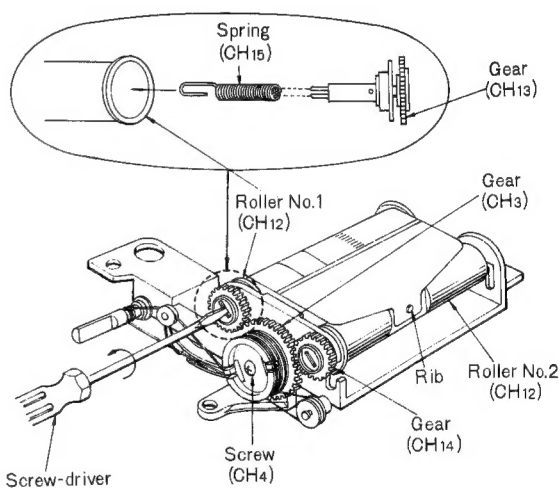

Fig. 3
1. Insert the gear (the gear not attached to the shaft) and the spring into roller no. 1, as shown in fig. 3.
2. Fully wrap the dial scale around roller no. 1, as shown in fig. 3.
3. Insert the dial scale into rib of roller no. 2, as shown in fig. 3.
4. Loosen the dial drum screw, as shown in fig. 3.
5. Using a screw-driver, as shown in fig. 3, slightly move the gear of roller no. 1 so that the gear disengages from the center gear, turn three times in the direction of the arrow (being sure to secure roller no. 1 so as to prevent it from also turning), and then engage the gear with the center gear once again.
8. Tighten the dial drum screws, as shown in fig. 3.
- Loosen the dial drum screw, as shown in fig. 3.
- Tighten the dial drum screw, as shown in fig. 3.